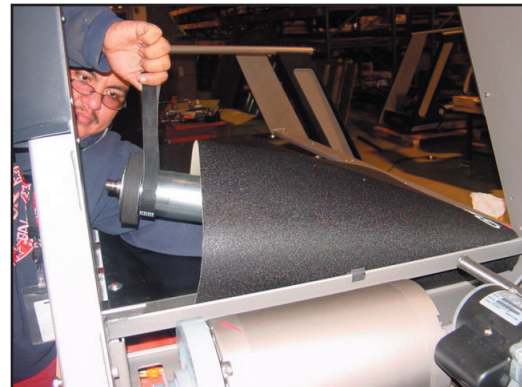

Figure 2.9
- 2.7 Slide the Front Roller over to the left, then use the belt to lift and slide out the roller from the machine (see Figure 2.9).